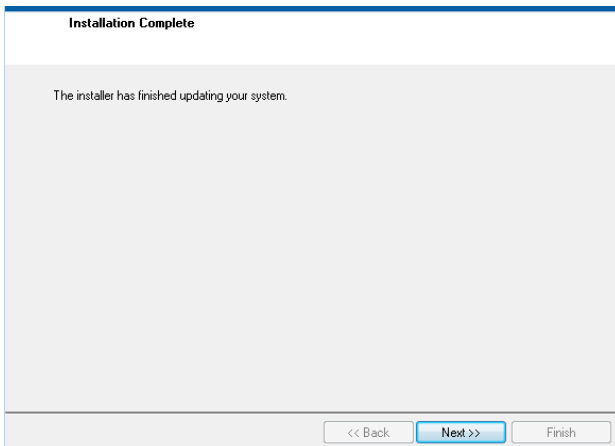

Figure 9. AD7124-8 EVAL+ Software Installation: Indicating When the Installation Is Complete
7. The message in Figure 9 appears when the installation is complete. Click **Next**.